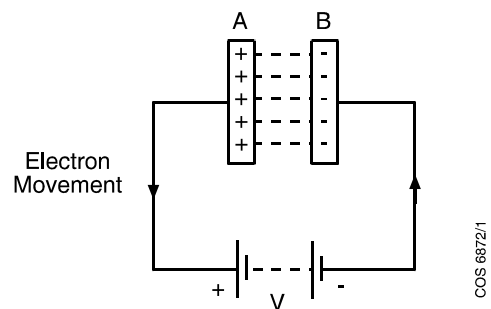

Figure 1
- Free electrons are moved from plate A to plate B around the circuit, as shown in figure 1.
- The collection of electrons on plate B and reduction of electrons on plate A produces a pd across the plates which is equal in magnitude, but opposite in polarity, to the applied voltage (V).